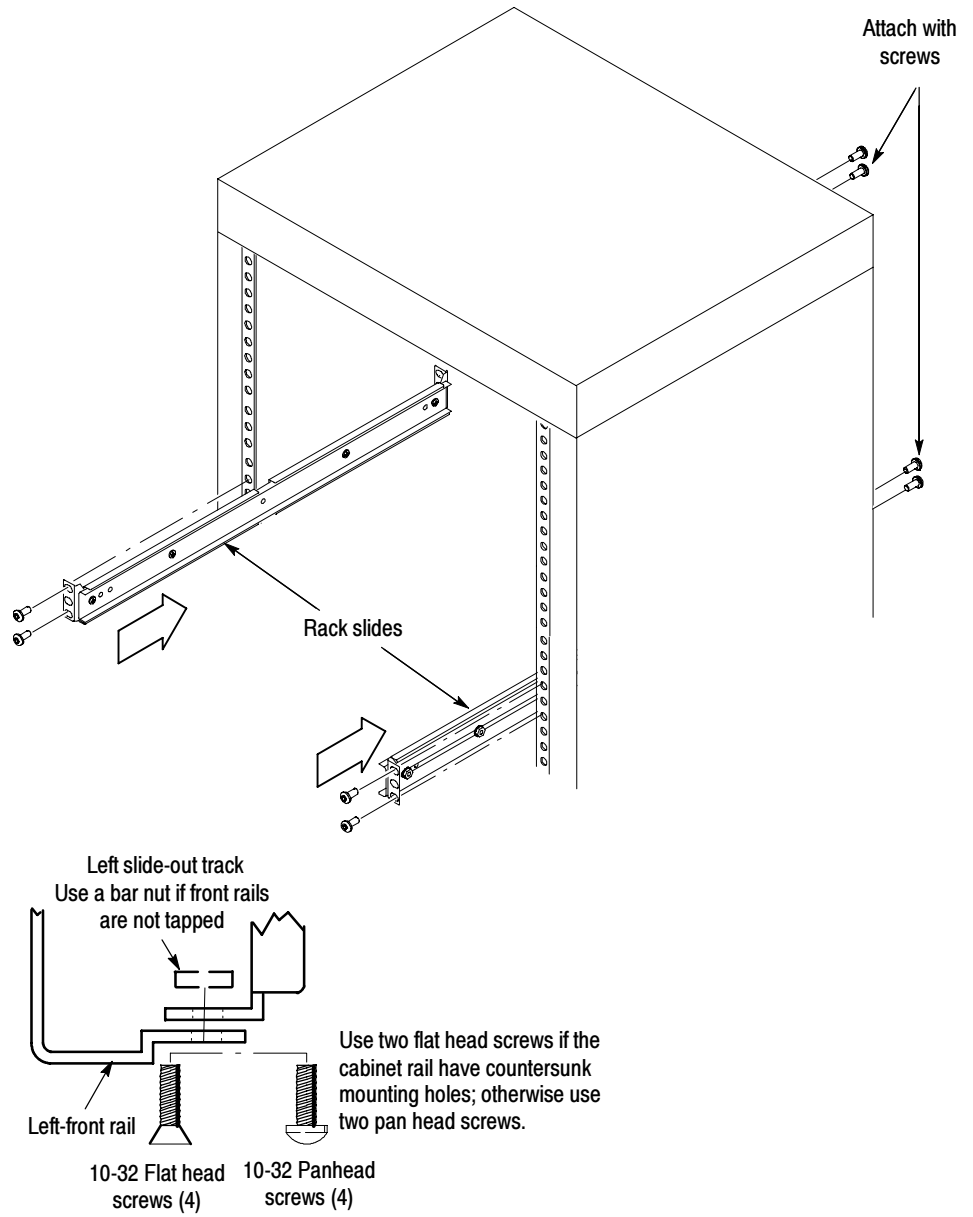

Figure 8: Installing the rail slides
5. Attach the rack slides to your equipment rack. See Figure 8.